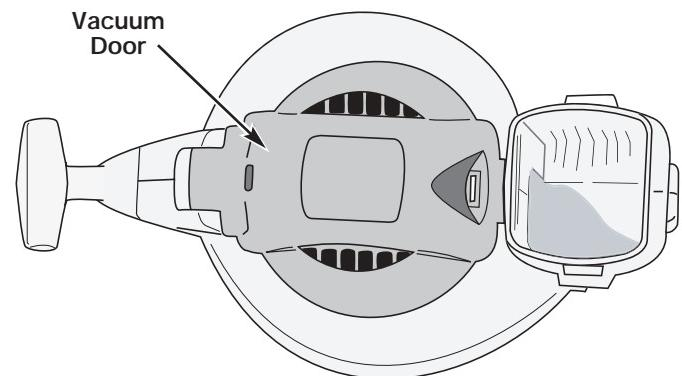

Fig. 3
- Flip the unit so it is standing straight up on the muffler cover. The front of the unit and the vacuum door should face you (Fig. 3).